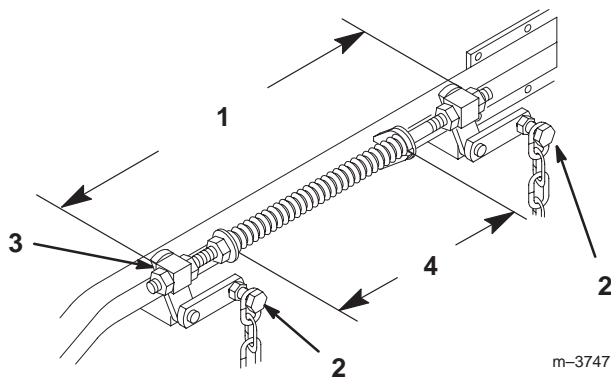

Figure 47
6. Loosen four (4) top chain bolts in slots. Check the length of the rod/swivel assemblies. Distance from outside of rear swivel to outside of front swivel should be 19-7/8" (505 mm) (Fig. 47). Make sure that all four swivels move freely in holes.
8. Lift up on four (4) top chain attachment bolts, in the slots, to take slack out of chains and tighten flange lock nuts. (Deck is still supported by two rear and one front blocks under mower.)
2. Springs are compressed so the distance between the two large washers should be 11" (279 mm) (Fig. 47).
3. Adjust by turning nut in front of each spring (Fig. 47). Clockwise will shorten spring; counter-clockwise will lengthen spring.